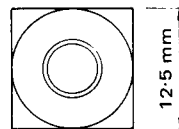

Fig. 1.86
11. Find the distance across the corners of the square-headed nut shown in Fig. 1.86.